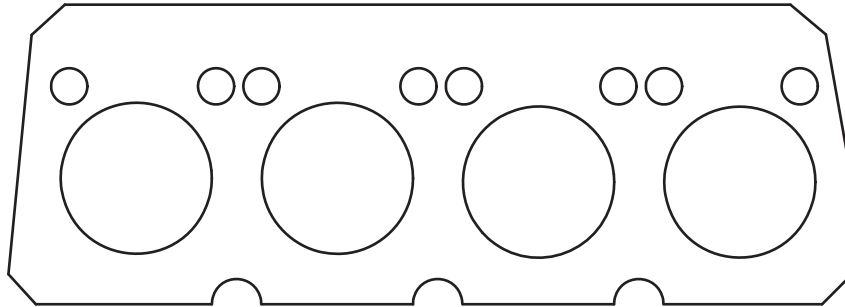

Fig. 16-3
7. Insert arcs along the broken edge of the gasket, as shown in Fig. 16-3.